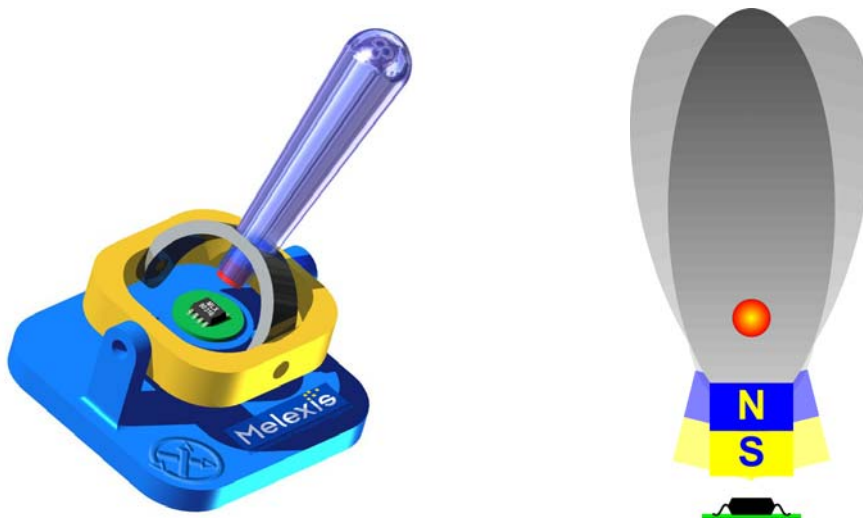

Figure 3 - Typical application of MLX90333
In combination with the appropriate signal processing, the magnetic flux density of a small magnet (axial magnetization) moving above the IC can be measured in a non-contacting way (Figure 3). The two (2) angular information are computed from the three (3) vector components of the flux density (i.e. B_x , B_y and B_z). MLX90333 reports two (2) linear output signals. The output formats are selectable between Analog, PWM and Serial Protocol.